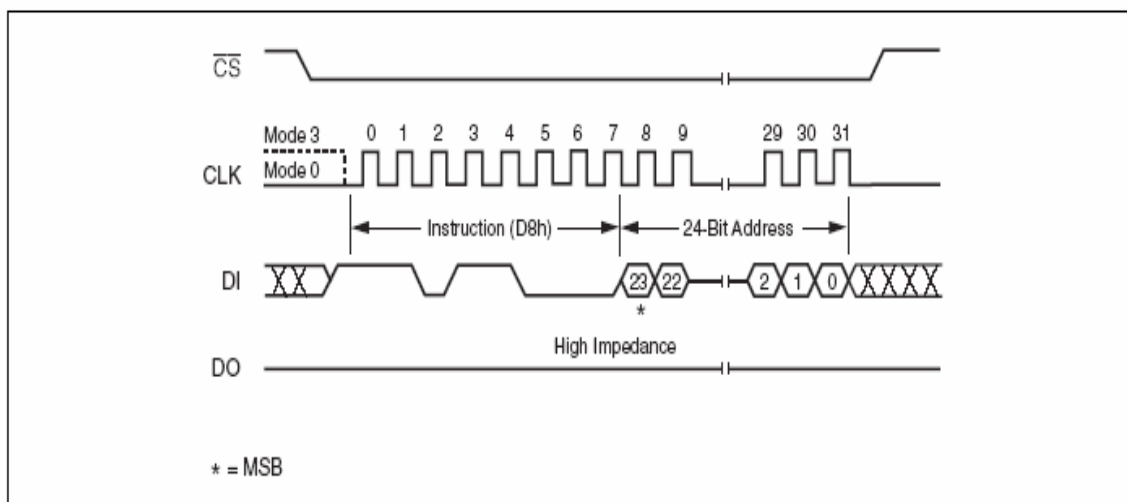

Figure 13 Block Erase Instruction Sequence Diagram
The instruction sequence is shown in Figure 13.. Chip Select (CS#) must be driven High after the eighth bit of the last address byte has been latched in, otherwise the Block Erase (BE) instruction is not executed. As soon as Chip Select (CS#) is driven High, the self-timed Block Erase cycle (whose duration is t_{SE}) is initiated. While the Block Erase cycle is in progress, the Status Register may be read to check the value of the Write In Progress (WIP) bit. The Write In Progress (WIP) bit is 1 during the self-timed Block Erase cycle, and is 0 when it is completed. At some unspecified time before the cycle is completed, the Write Enable Latch (WEL) bit is reset.